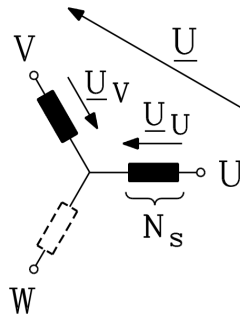

Fig. 1.6-2: Generation of single phase winding out of three-phase winding scheme
3) According to Fig. 1.6-2, we get for the single phase winding the total number of turns N :
The induced line-to-line voltage has to be determined acc. to Fig. 1.6-2, considering the phase shift between phases U and V: